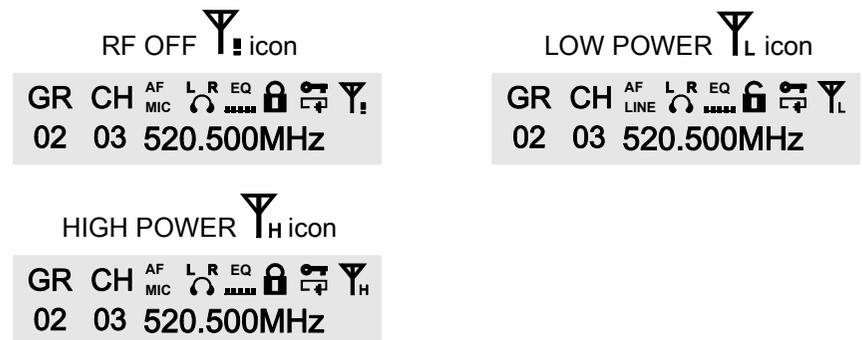

Fig. 11
- (1) Locate RF POWER menu, press to activate setting.
- (2) Press to enter setting (highlighted in black). Turn for HIGH POWER, RF OFF or LOW POWER. Press to save.
- (3) Once saved, indicator returns to listed menus.
- (4) Notes: Fig. 11